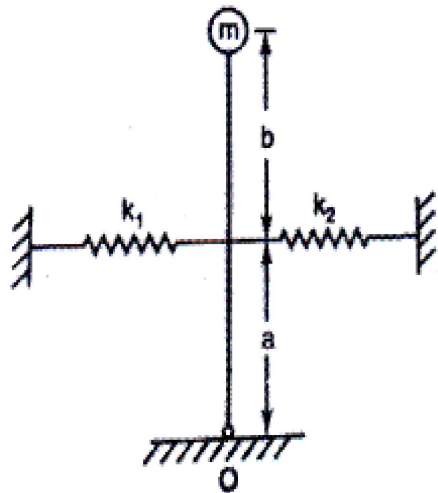

Fig. 1 (Q. 1b)
- b)** Determine the expression for natural frequency of the system shown in Fig.1 [4]